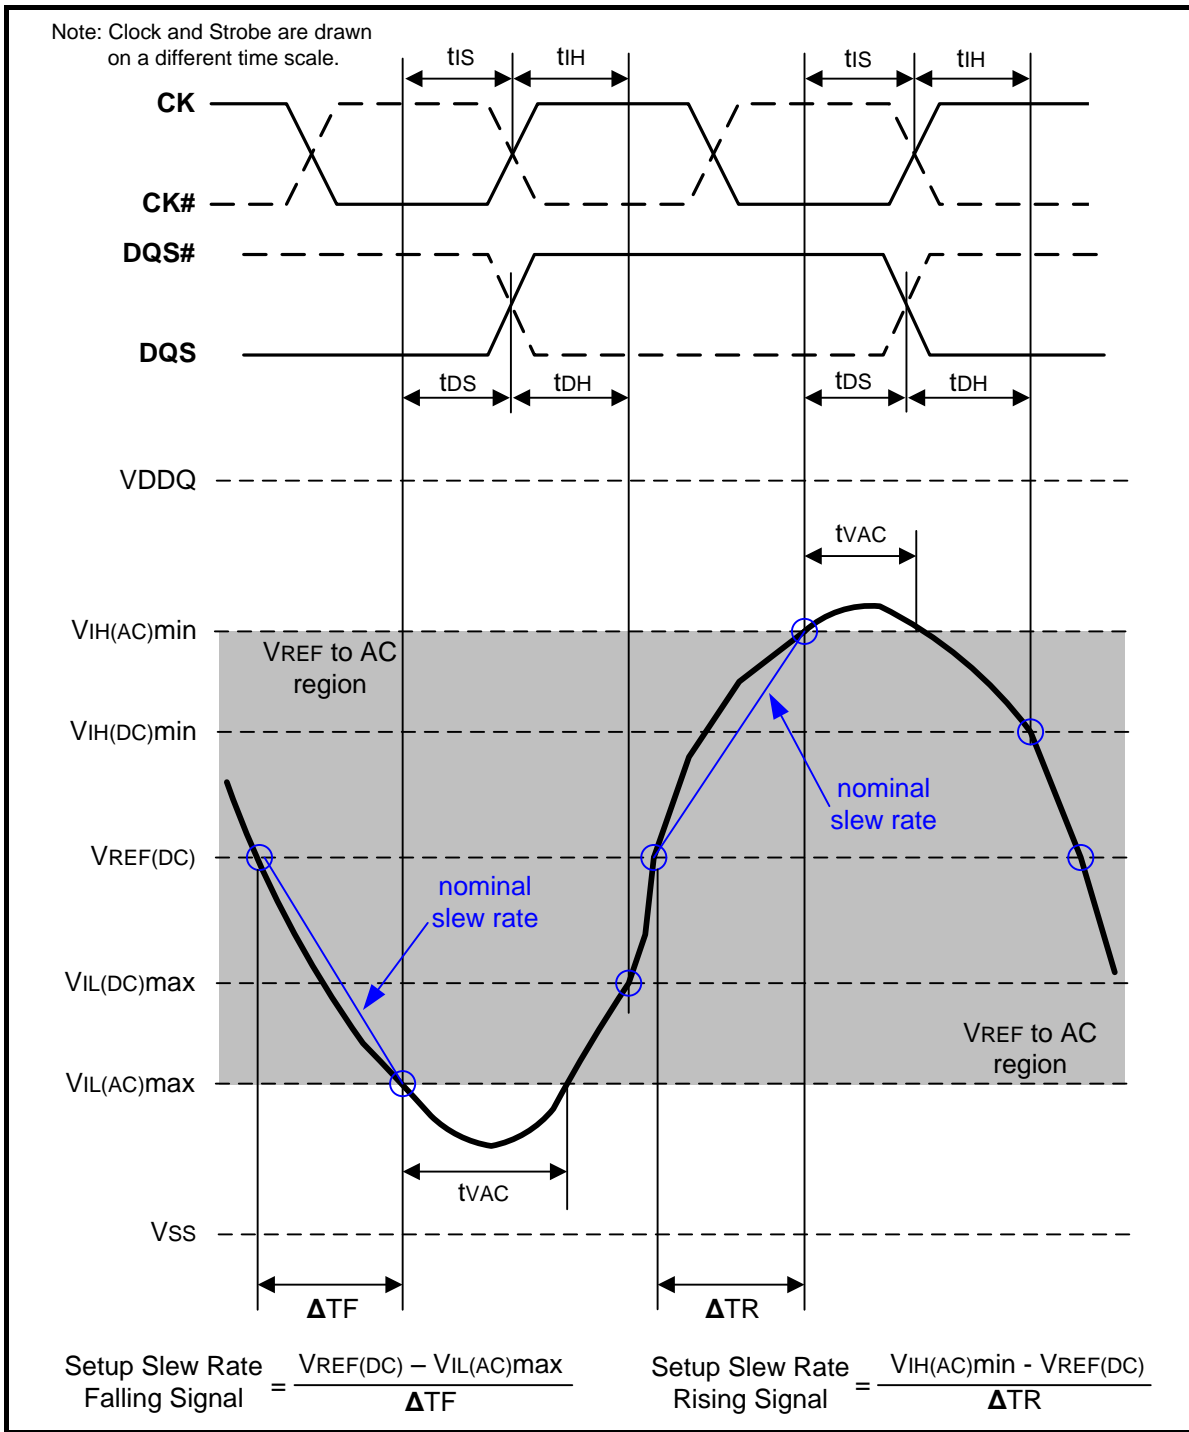
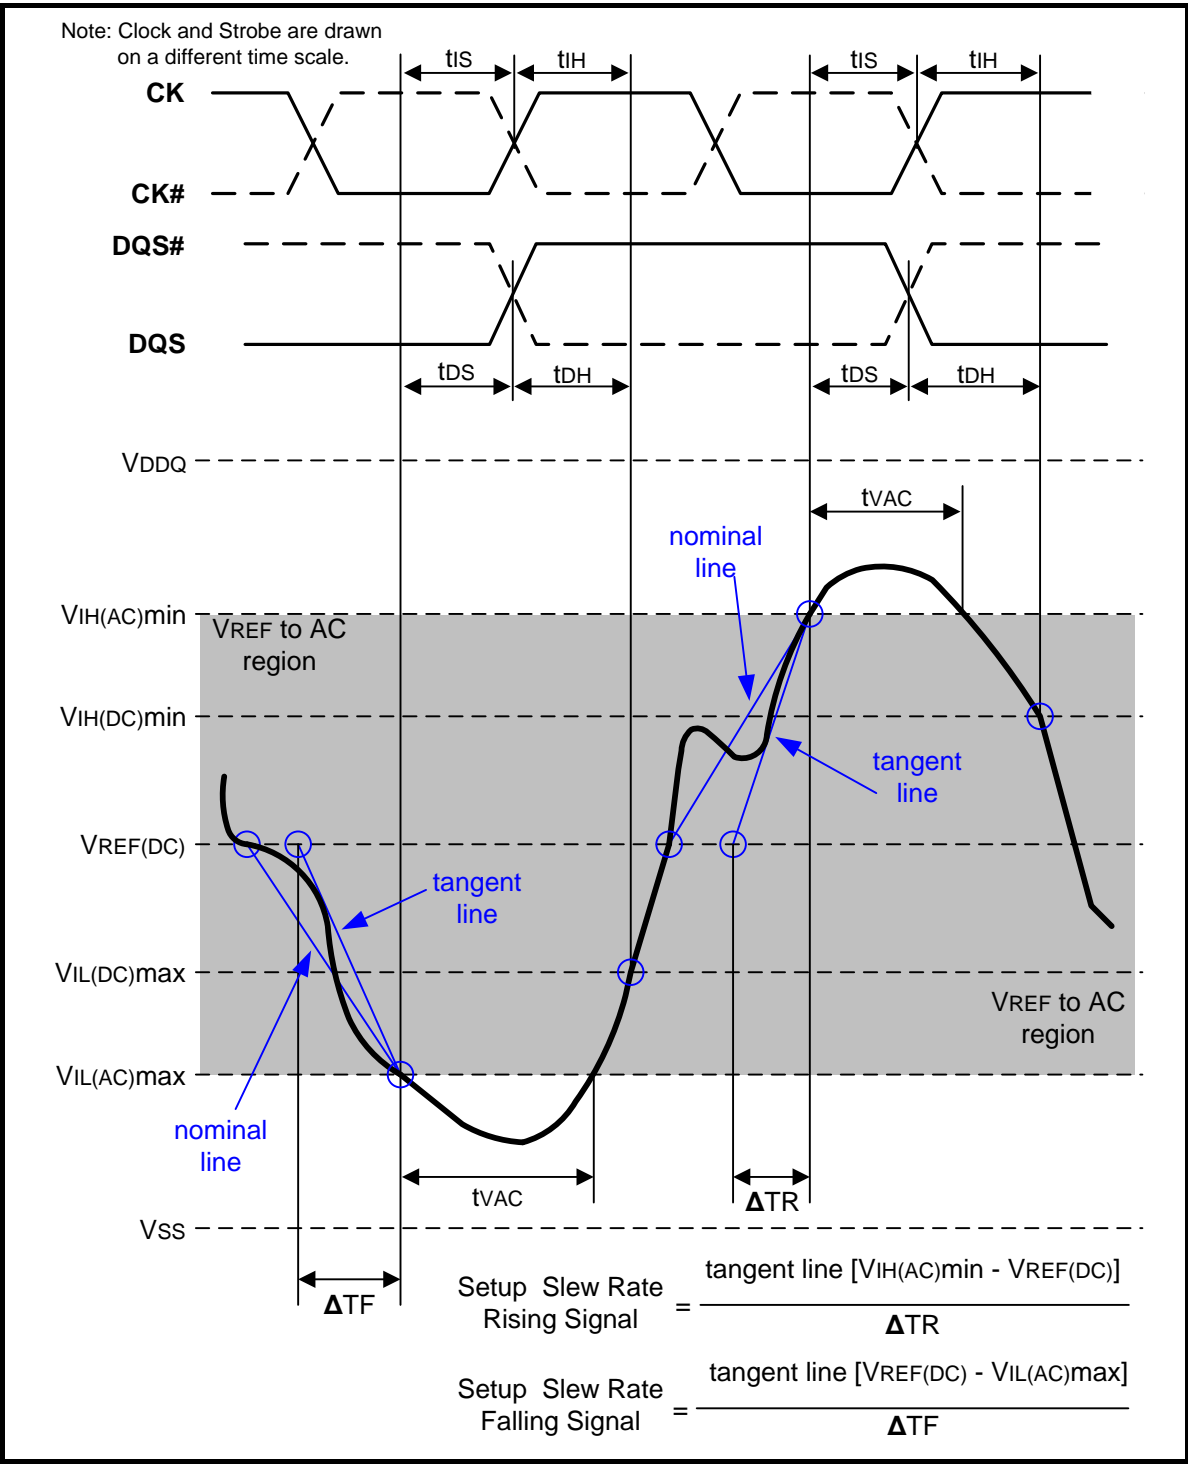

Figure 107 – Illustration of nominal slew rate and tvAC for setup time tds (for DQ with respect to strobe) and tis (for ADD/CMD with respect to clock)
Figure 109 – Illustration of tangent line for setup time tds (for DQ with respect to strobe) and tis (for ADD/CMD with respect to clock)
Setup (t_{IS}) nominal slew rate for a rising signal is defined as the slew rate between the last crossing of $V_{REF(DC)}$ and the first crossing of $V_{IH(AC)min}$. Setup (t_{IS}) nominal slew rate for a falling signal is defined as the slew rate between the last crossing of $V_{REF(DC)}$ and the first crossing of $V_{IL(AC)max}$. If the actual signal is always earlier than the nominal slew rate line between shaded 'VREF(DC) to AC region', use nominal slew rate for derating value (see Figure 107). If the actual signal is later than the nominal slew rate line anywhere between shaded 'VREF(DC) to AC region', the slew rate of a tangent line to the actual signal from the AC level to DC level is used for derating value (see Figure 109).
Setup (tDS) nominal slew rate for a rising signal is defined as the slew rate between the last crossing of VREF(DC) and the first crossing of VIH(AC)min. Setup (tDS) nominal slew rate for a falling signal is defined as the slew rate between the last crossing of VREF(DC) and the first crossing of VIL(AC)max (see Figure 107). If the actual signal is always earlier than the nominal slew rate line between shaded 'VREF(DC) to AC region', use nominal slew rate for derating value. If the actual signal is later than the nominal slew rate line anywhere between shaded 'VREF(DC) to AC region', the slew rate of a tangent line to the actual signal from the AC level to DC level is used for derating value (see Figure 109).